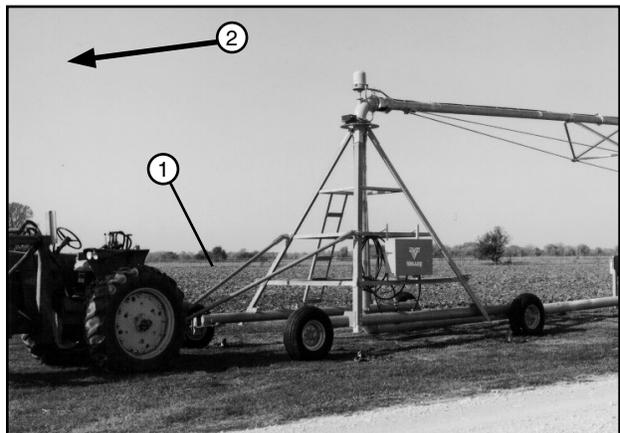

Figure 48-3 1. Tongue
10. If the pivot wheels are in line with the span, move the tongue to the side of pivot that faces the towing direction. See figure 48-3. Then proceed to step 18 of these instructions.